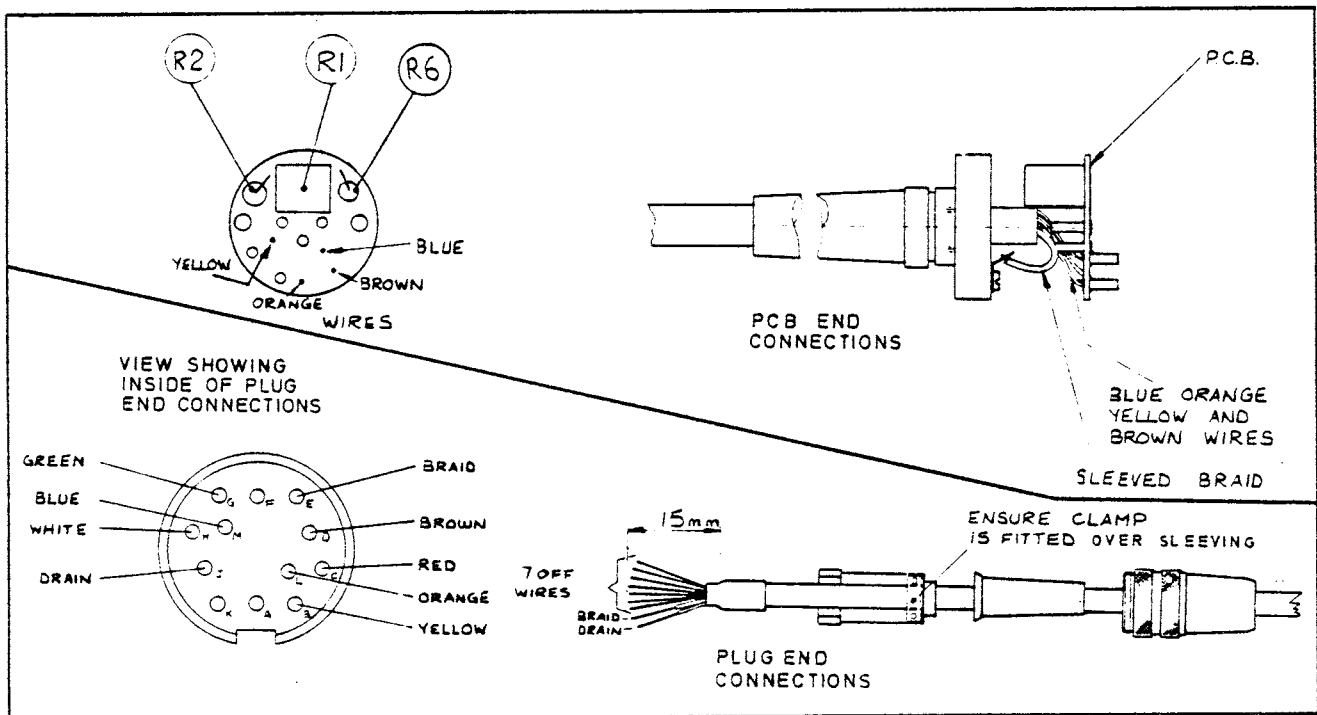

Fig. 4 Cable assy. wiring details.
plug interconnections, see Fig. 4.
15. The cable assy. includes the 12 pin male connector and therefore only requires connections to be made at the p.c.b. However Fig. 4 gives details of the interconnections to both p.c.b. and the 12 pin male connector should the user require to change only the plug and not the complete cable assy.